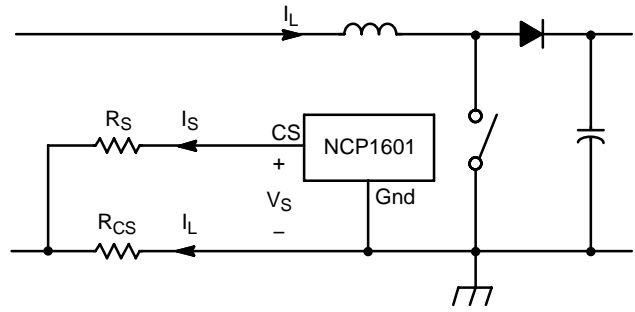

Figure 32. Current Sensing
The device senses the inductor current I_L by the current sense scheme in Figure 32. This scheme has the advantages of: (1) the inrush current limitation by the resistor R_{CS} , and (2) the overcurrent protection and zero current detection implemented in the same pin.
Inductor current I_L passes through R_{CS} and creates a negative voltage. This voltage is measured by a current I_S flowing out of the CS pin (Pin 4). The CS pin has an offset voltage V_S . This offset voltage is studied in the setting of zero inductor current $I_{L(\text{ZCD})}$ and the maximum inductor current $I_{L(\text{OCP})}$ (i.e., overcurrent protection threshold). A typical variation of offset voltage V_S versus sense current I_S is shown in Figure 15. Higher the value of the offset voltage at low current region creates lower the zero current threshold for better accuracy. Based on Figure 32, (eq.13) is derived.